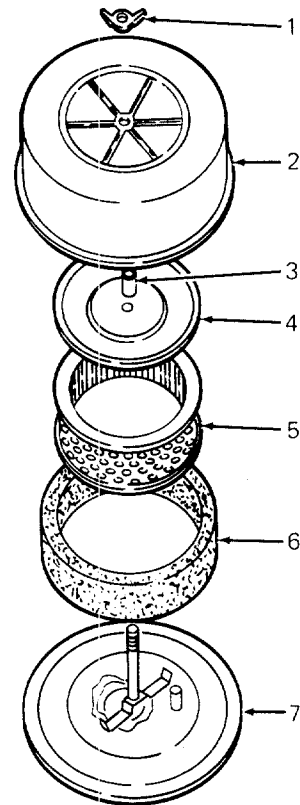

Figure 24. Air Cleaner Assembly
1. Remove wing nut and cover. (Refer to Figure 24.)
This engine is equipped with a dry type air cleaner element, which should be checked every 100 operating hours and replaced if dirty. It should be checked and if necessary replaced more often under extremely dirty, dusty conditions. Do not wash element in any liquid or attempt to blow dirt off with air hose as this will puncture filter element. Carefully handle new element — do not use if gasket surfaces are bent or twisted. Check the following when installing a new element: (Refer to Figure 24.)